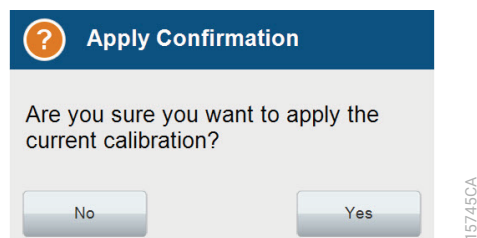

Figure 56. Apply spectral calibration confirmation window.
7. After reviewing the results, select **Finish**. This will open a confirmation window. Select **Yes** to apply the spectral calibration results (Figure 56). The spectral calibration result will not be saved unless you select **Yes** on this window.